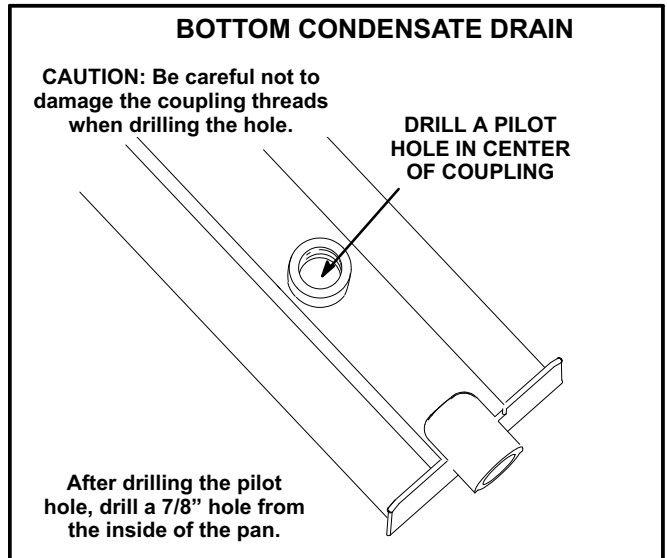

FIGURE 7
- 5- Turn the drain pan upside down and drill a pilot hole through the bottom of the drain pan in the center of the coupling. See figure 7.